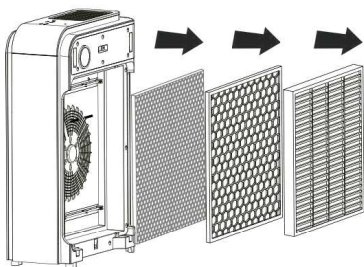

Fig. 3
4. Remove the HEPA filters (3), carbon filter (4) and photocatalytic filter (5) from the air purifier (fig. 3).